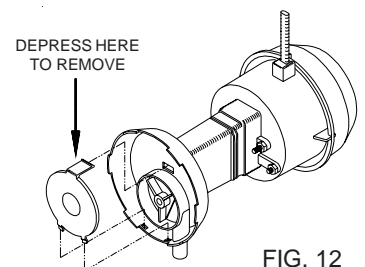

FIG. 12
- **Clean pump.** Cleaning the pump is necessary once a year at start-up. For your safety, turn unit off and unplug motor and pump. Remove the pump from the mount slot. Remove the base of the pump as shown in Fig. 12. Clean the pump and turn the impeller to ensure free operation. Remove the pump spout and check for any blockage. After cleaning, reinstall the base onto the pump. Reattach the pump to the mount in the cooler using the plastic retainer to ensure that the pump will not overturn. Do not forget to replace the spout and water delivery tube onto the pump outlet. The pump has automatic reset thermal protection.